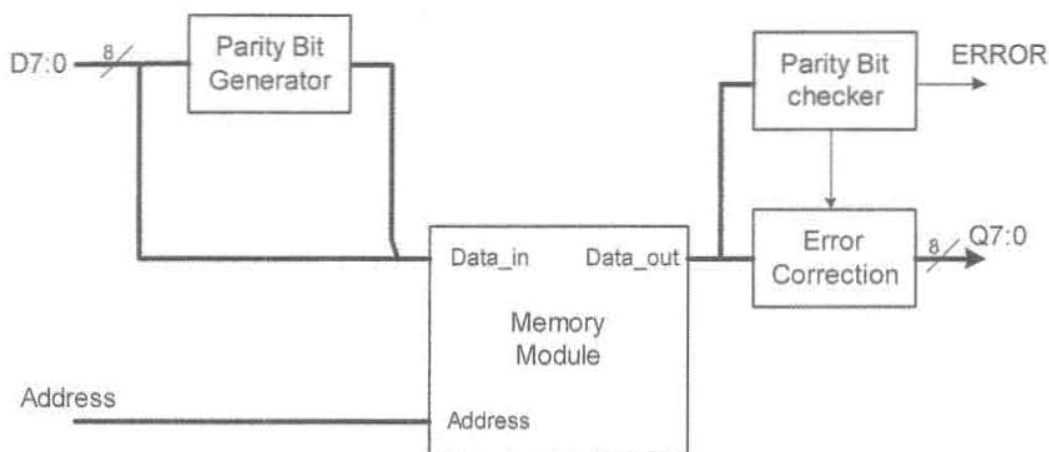

Figure 3.1
c) Figure 3.1 shows an error-correcting memory module that can correct single bit error in the data $D7:0$. The signal $ERROR$ at the output is high when an error is detected and low otherwise.